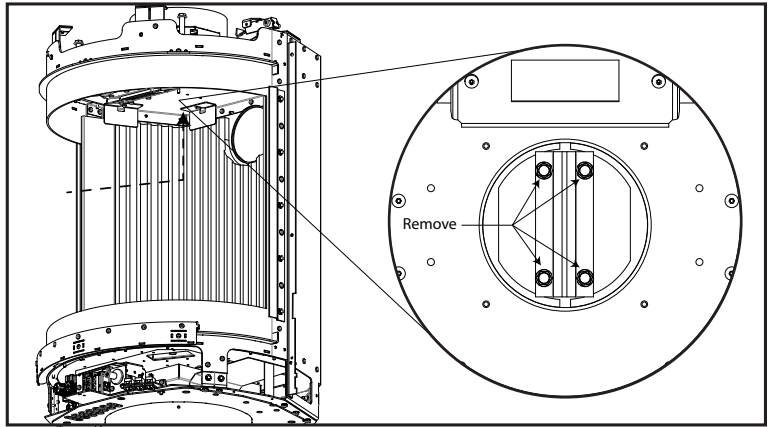

Figure 62: Restrictor Plate Removal
5. Rotate the restrictor disk by hand from inside the firebox until the four (4) screw heads are exposed; remove them using a 5/16" socket (see Figure 62). The finger catch can be loosened and moved if it is inhibiting the movement of the restrictor.